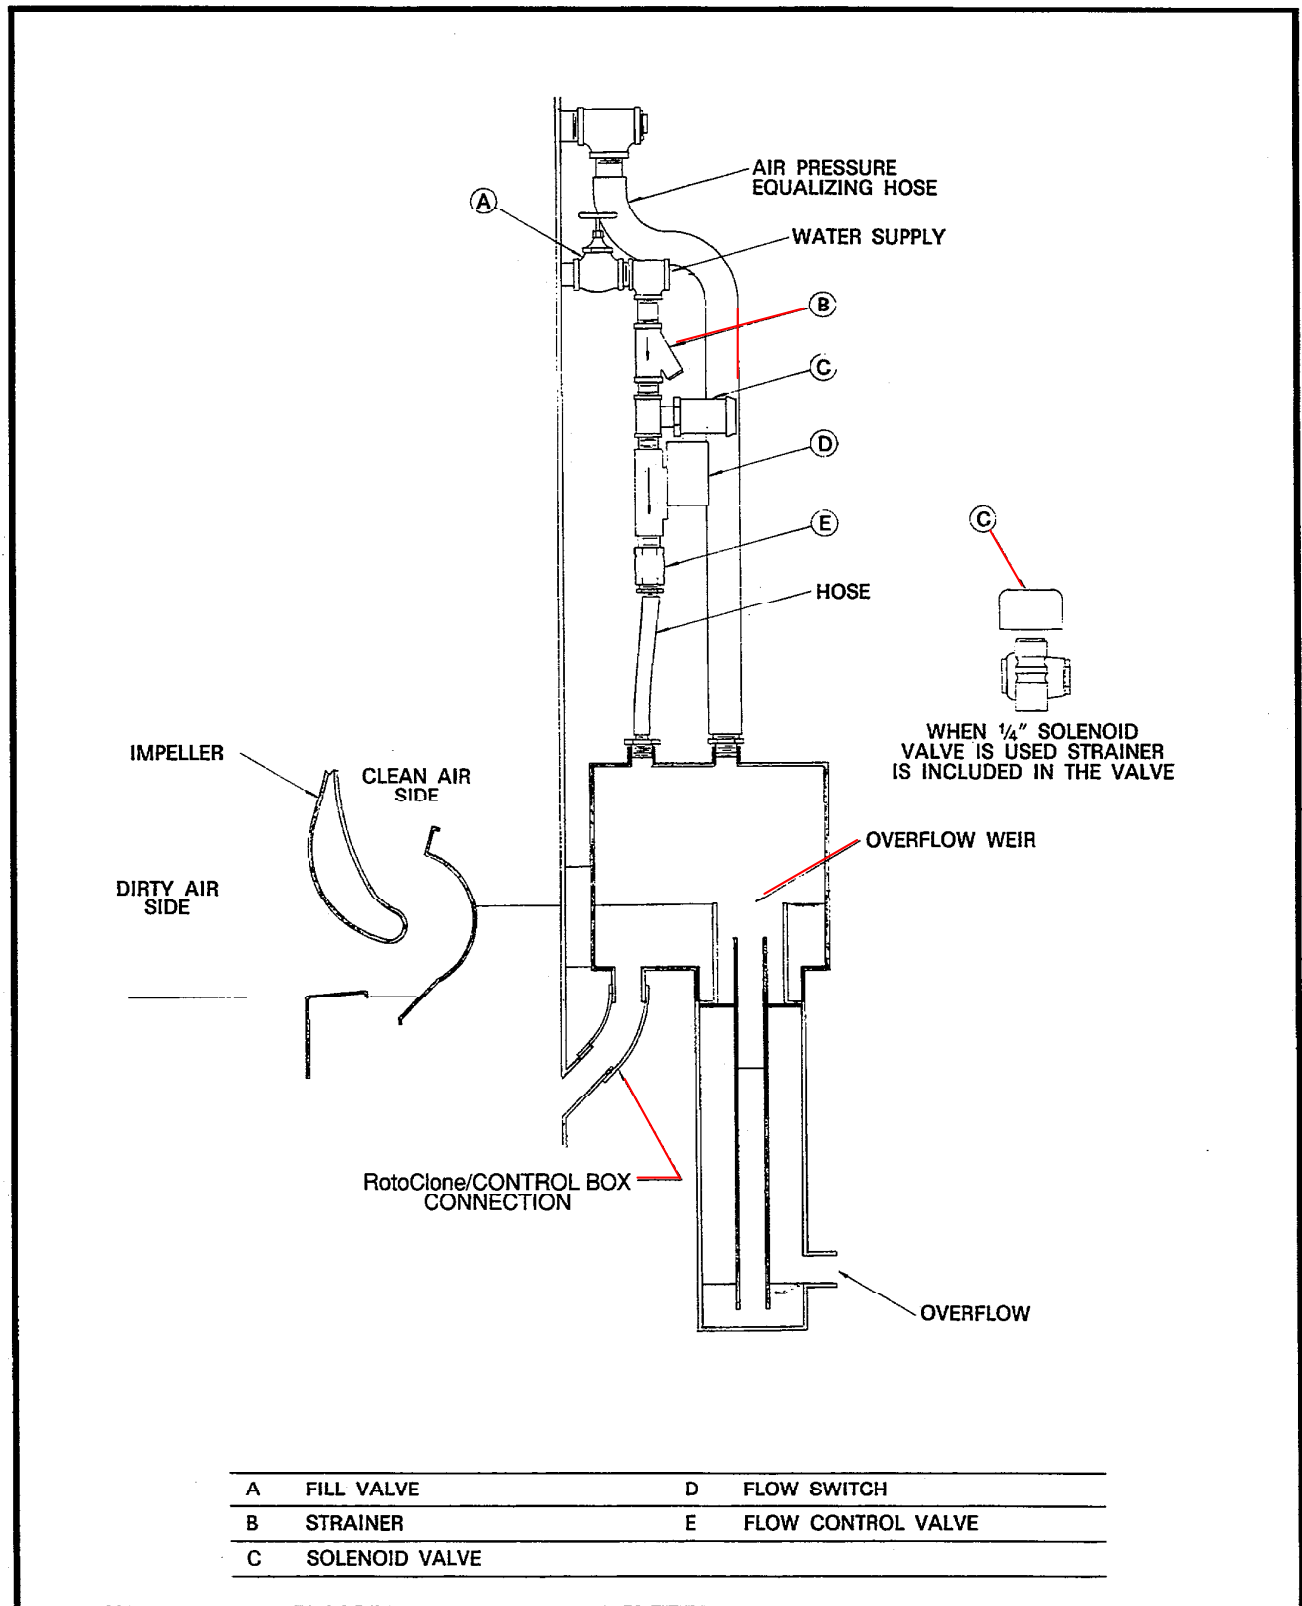

FIG. 5. Control, Model "SV" Water Level (Type 'N' Model "B" RotoClone).
Supply water makeup for the RotoClone is required because of water losses from evaporation, sludge removal, and overflow from the control box. This makeup water will maintain the proper water level in the unit by entering RotoClone through the RotoClone/CONTROL BOX CONNECTION (Figure 5 and 6).
1. Model "SV" Control (Figure 5) – This is the standard water level control for the Type N RotoClone. It prevents operation of the RotoClone when there is insufficient water flow. It also allows a continuous water flow over the running level weir, down the drainpipe, and into the overflow. The water supply system contains a fill valve, solenoid valve, strainer, flow switch and flow control valve. As long as the solenoid valve remains open there will be a constant water flow into the control box.
- b. Open port light each week while RotoClone is stopped and remove any accumulations in the box, check air equalizing port for pluggage, check running level weir, electrode (if supplied), and drain pipe for build-up and wear (Figure 5 and 6). Clean cover glass and secure portlight, carefully tightening holddown nut.